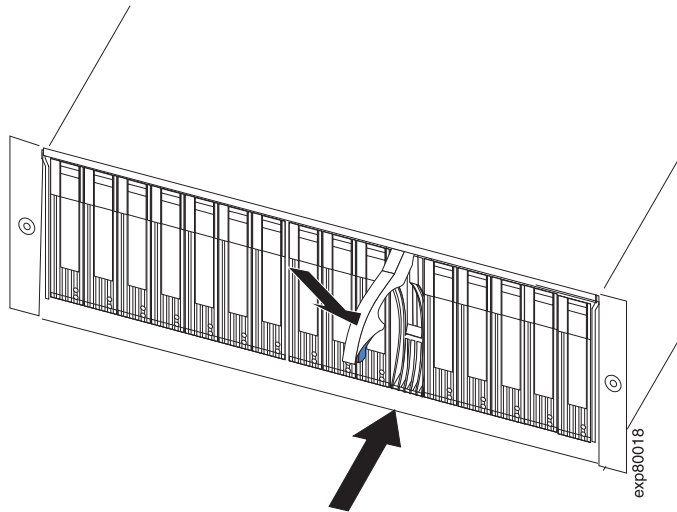

Figure 16. Removing a drive CRU
4. Pull the drive out of the bay, as shown in Figure 16 on page 32.